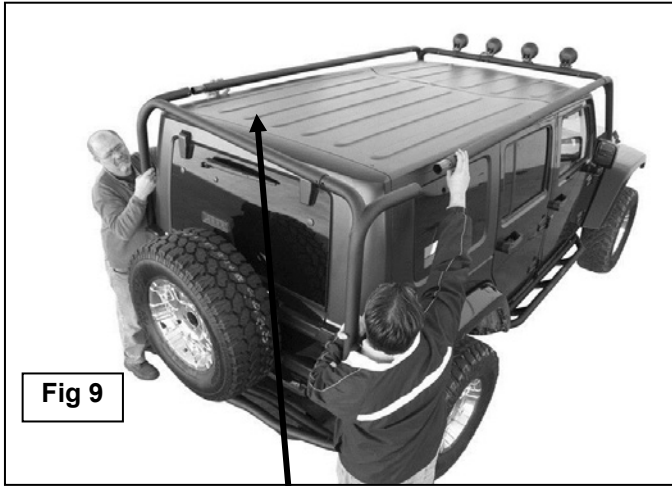

Fig 9
NOTE: Be careful not to damage the vehicle when attaching the top section. Use the included (2) 8mm x 65mm Allen Bolts, (4) 8mm Flat Washers and (2) 8mm Nylon Lock Nuts to attach the Rear Top Legs to the Side Rails, **(Figure 9 & 10)**.